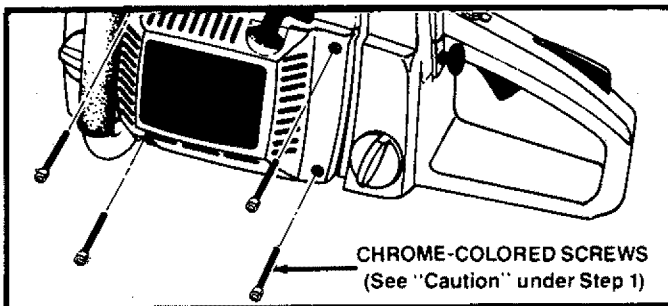

Figure 36
1. Remove the four screws on the side of the fan housing. Figure 36.